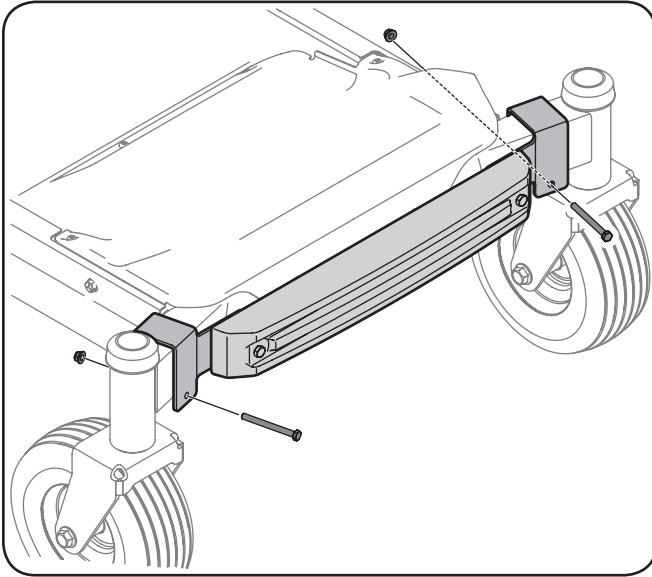

Figure 5-27
2. Attach the weight bar assembly to the front axle with a 3 1/4-inch (710-3056) screw and (712-04063) flange nut from hardware pack 689-00325 on the left side. Repeat on the right side. Do not fully tighten at this time. See Figure 5-27.